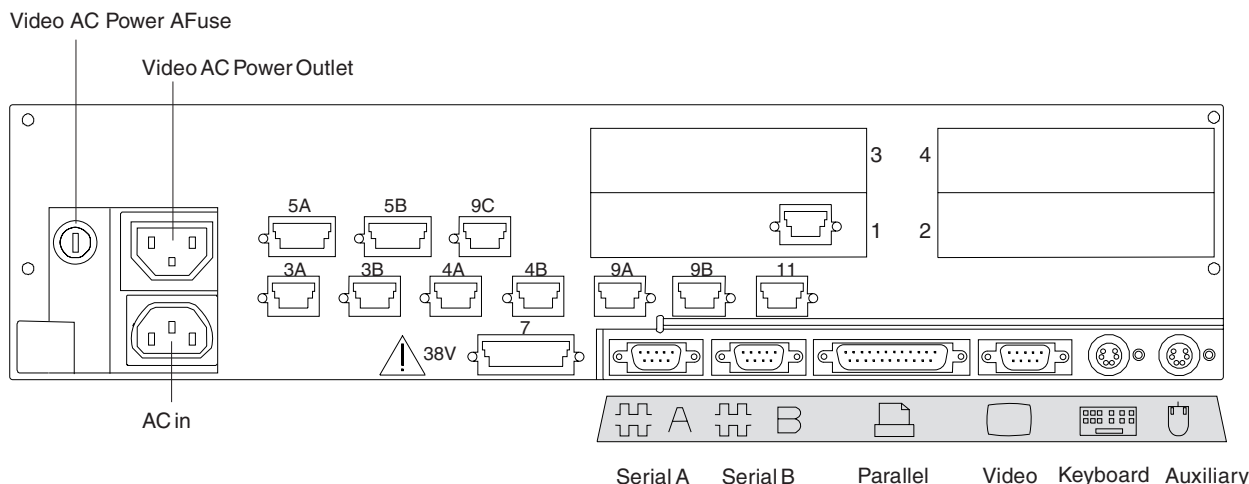

Figure 85. Rear of 4693-5x1 or 4693-7x1 Point-of-Sale terminal
7. Mark an X on Figure 85 on page 246 to indicate the sockets in which POS devices are connected.